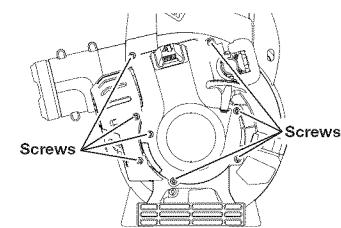

Fig. 20
- 1. Remove the 8 engine cover screws with the appropriate tool (Fig. 20), then remove the cover.
NOTE: Make sure that the screws are reinstalled into their original holes (Fig. 20).